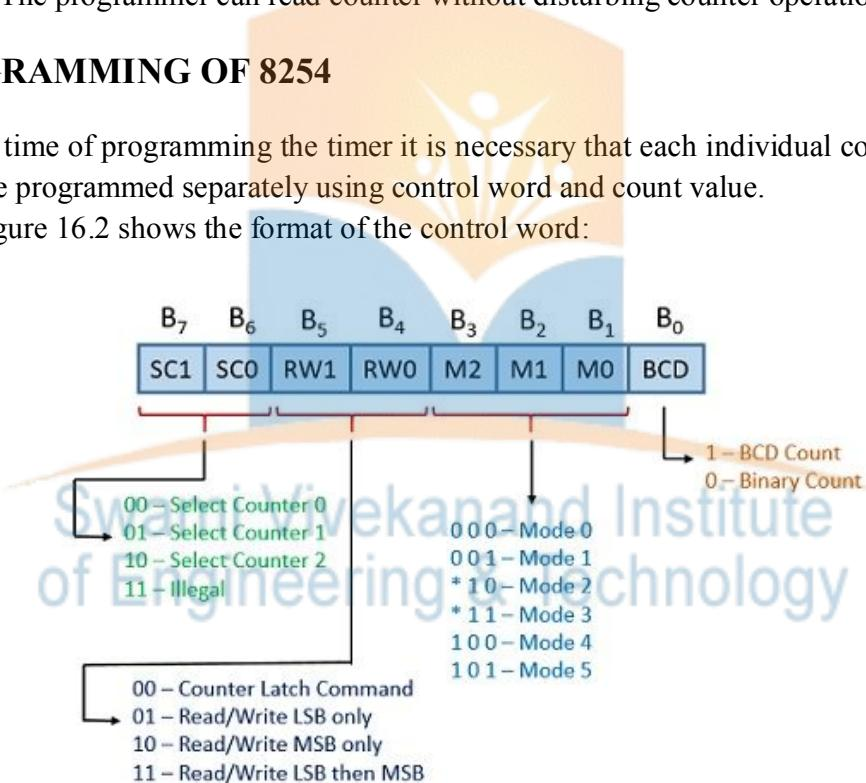

Fig. 16.2 Format of control word of 8254 timer
- The figure 16.2 shows the format of the control word: